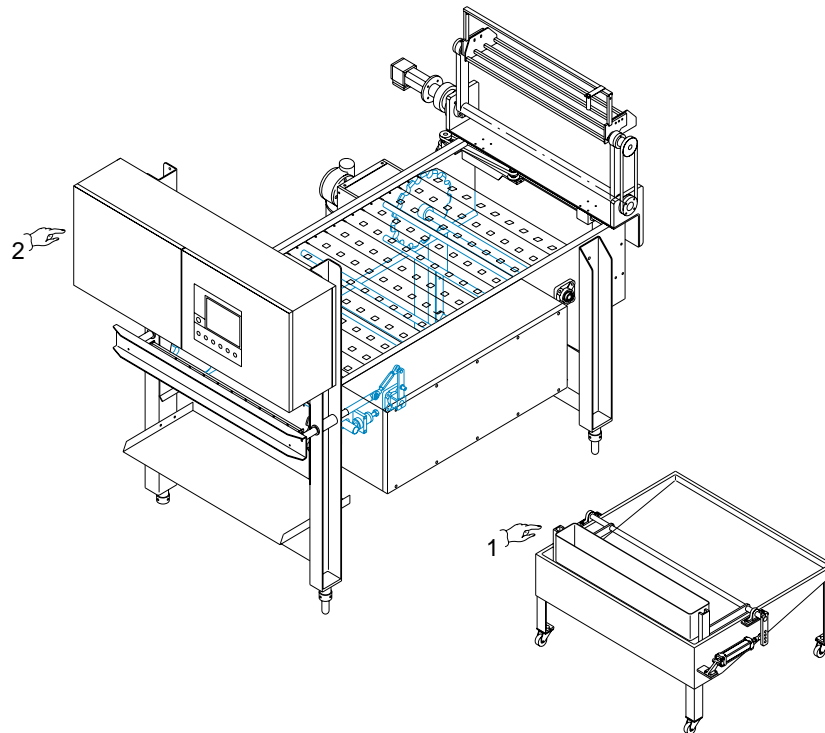

Fig. 5.2
- Position the coating tank assembled on wheels (*Pos. 1, Fig. 5.2*) in the correct position underneath the pick-up machine.
- Connect the coating tank (*Pos. 1, Fig. 5.2*) to the control panel of the pick-up machine (*Pos. 2, Fig. 5.2*) using the multiple connection cable provided.